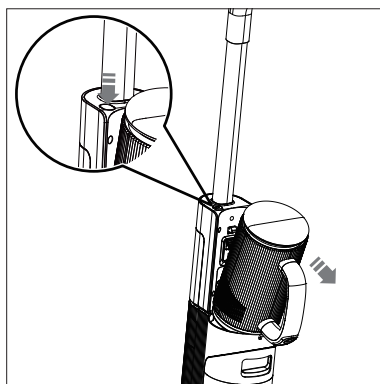

Fig. 21 – Removing the motor unit
- ▶ Hold the motor unit firmly and press the release button for the motor unit (4) to release the motor unit.
- ▶ Tilt the motor unit forwards out of the appliance (see Fig. 21).